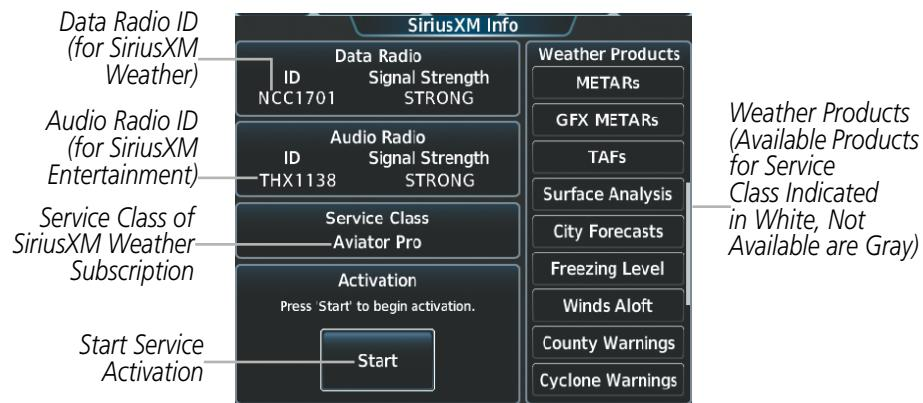

Figure 6-1 SiriusXM Info Screen After Activation
- The SiriusXM Info Screen on the Touchscreen Controller (Figure 6-1)
- 2) Note the ID shown in the Data Radio Window as seen in Figure 6-1.
- 3) Touch the **Start** Button in the Activation Window (Figure 6-1). The Activation Window shows 'ACTIVATING' while processing the activation.